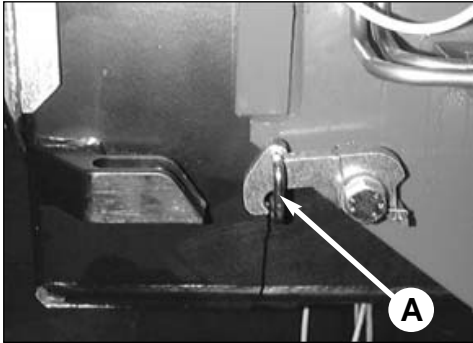
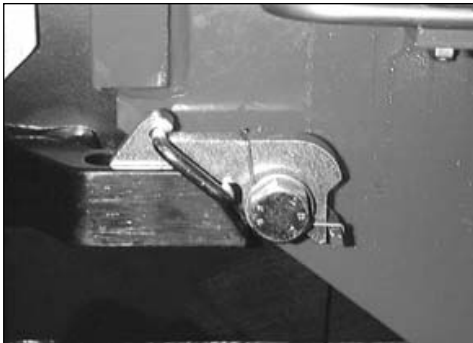

fig. 28c
fig. 28
Keep hands clear of automatic stop device (lever **A** from the position of the fig. 28c to the one of the fig. 28).
**(!) Always check that the outriggers supports, once in their rest position, are locked in their seat by the safety devices, so as to assure the impossibility of accidental movement. (Fig. 28)**